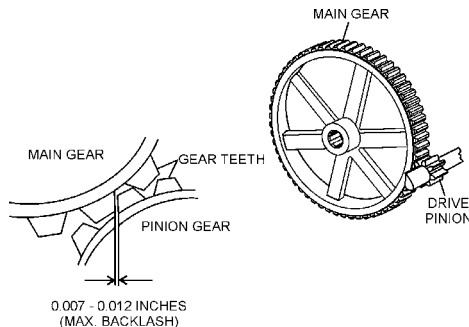

Figure 23. Drive Pinion and Main Gear (Backlash)
3. Using your hand, slightly move (rock) the drive pulley back and forth to determine the amount of backlash. Insert feeler gauge between gears to determine backlash distance. Backlash should range between 0.007- 0.012 inches (Figure 23).